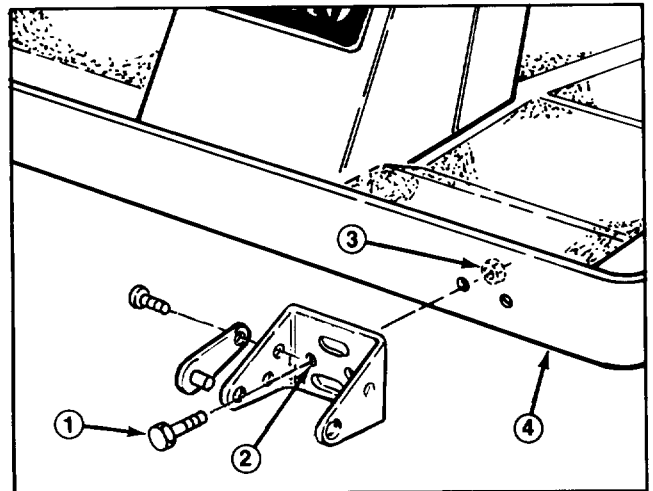

Figure 9
1. 3/8 x 1" flange screw (2)      2. Slotted hole      3. GM 220-D/224
- B. Groundsmaster 217-D and 220 — Align the bracket with the frame mounting holes. Insert (2) 3/8 x 2-1/4" capscrews through the non-slotted bracket holes and frame mounting holes. Install locknuts and torque to 45-50 ft-lb (Fig. 9).